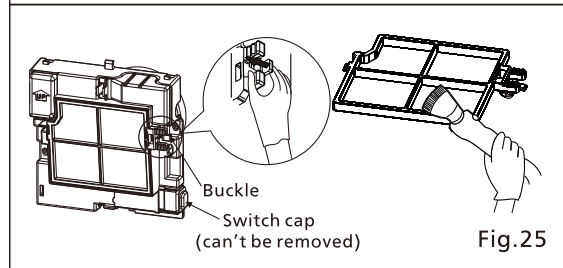

Fig. 25
3. Squeeze the buckle of the filter and detach it. Remove dirt from it by using a vacuum cleaner. (Fig.25)